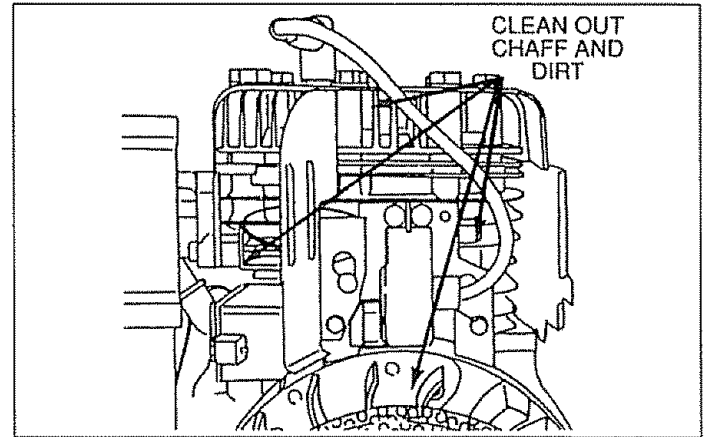

FIG. 25
- Clean dirt or chaff from finger guard or rotating screen every 8 hours to prevent engine damage caused by overheating (Fig. 25).